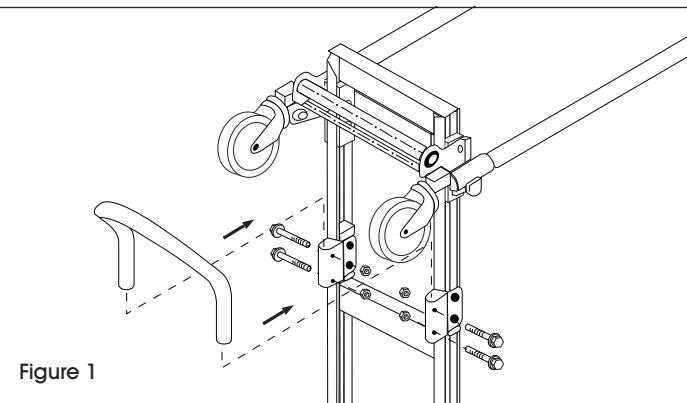

Figure 1
1. Slide handle into the handle brackets on the back side of the frame. Align holes in handle and brackets. If handle won't slide in, loosen bracket bolts. Insert four hex washer head bolts through brackets and handle and secure with locknuts. (See Figure 1)